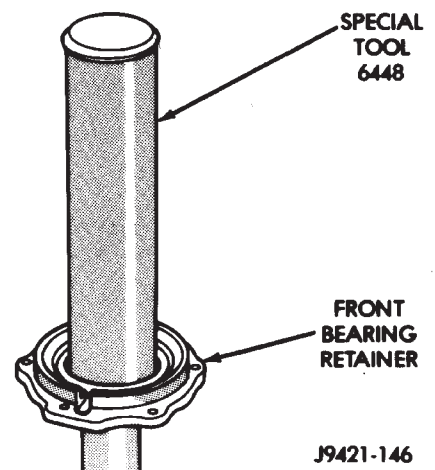

Fig. 130 Installing Oil Seal In Front Bearing Retainer
(18) Install new oil seal in front bearing retainer with Installer Tool 6448 (Fig. 130).